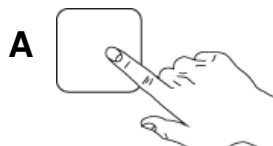

Fig.13
- 4- Close the door and press button "A" to turn ON the machine. (Fig.13)